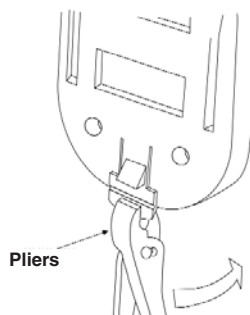

Figure 5
4. Bend the tab backward until it breaks off (Figure 5).